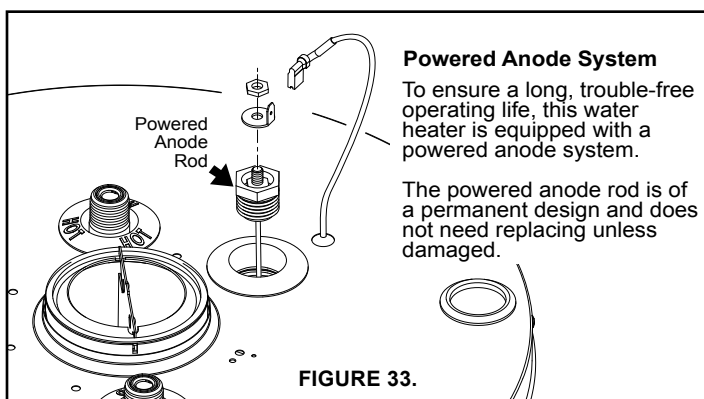

FIGURE 33.
6. Unplug the electrical connection on top of the powered anode by pulling the wire connector up and off of the powered anode rod electrical connector (Figure 33).
7. Remove the powered anode rod by using a ratchet and a 1-1/16” socket turning counterclockwise (Figure 33) (Note: Figure 33 is shown exploded). If the socket used is short well you may have to remove the top male connector first before removing the powered anode rod.
9. Prior to installing, it will be necessary to use pliers to bend up approximately 90° the electrical male connector on the top of the powered anode rod. The electrical connector should be bent upward in order to allow the 1-1/16” deep well socket to pass over the connector. Note: if using a short well socket the male connector must first be removed (Figure 33 is shown exploded for clarity).